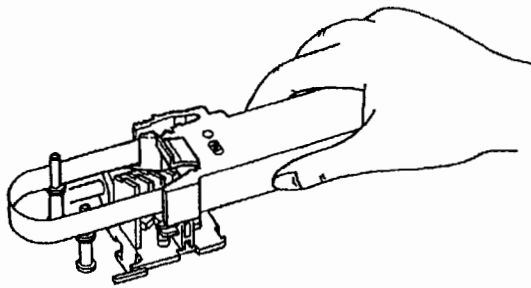

Figure 6.3
- (4) Pull out the ribbon slightly from the ribbon cassette and install the ribbon onto the two guide pins. At this time, the ribbon adjustment knob must face down. (Figure. 6.3)